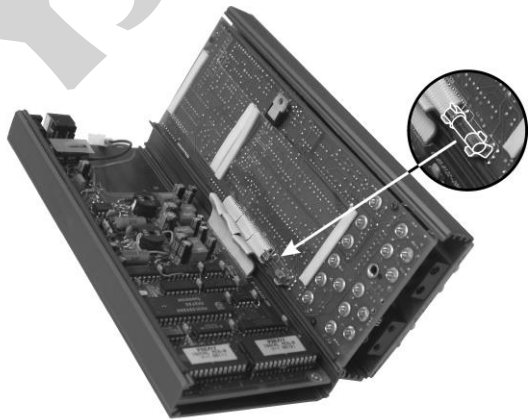

Fig. 19 - Input current fuse substitution
- 3) It is not necessary to open the instrument 180 degrees. Open according to the **figure 19** and locate the fuse;